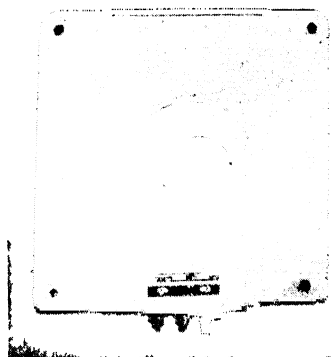

FIG. 1-28 Hand-operated field rheostat used for controlling the field current in the field circuits of motors or generators. (Courtesy General Electric Co.)
**Rheostats.** Often it is necessary to reduce or increase the current in a circuit. From what was stated above this can be done if it is possible to increase or decrease the resistance in the circuit. This can be arranged for by connecting into the circuit a *resistor* which is nothing more than an object having a variable resistance, that is, one that can be changed at will. Types of such resistance boxes or resistors are shown in Figs. 1-28 and 1-29. By turning the handle of the hand-operated resistor, more or less resistance is put into the circuit and the current accordingly decreases or increases. Such resistors are commonly called "rheostats" and are used wherever it is necessary to control or regulate the current flowing in a circuit.